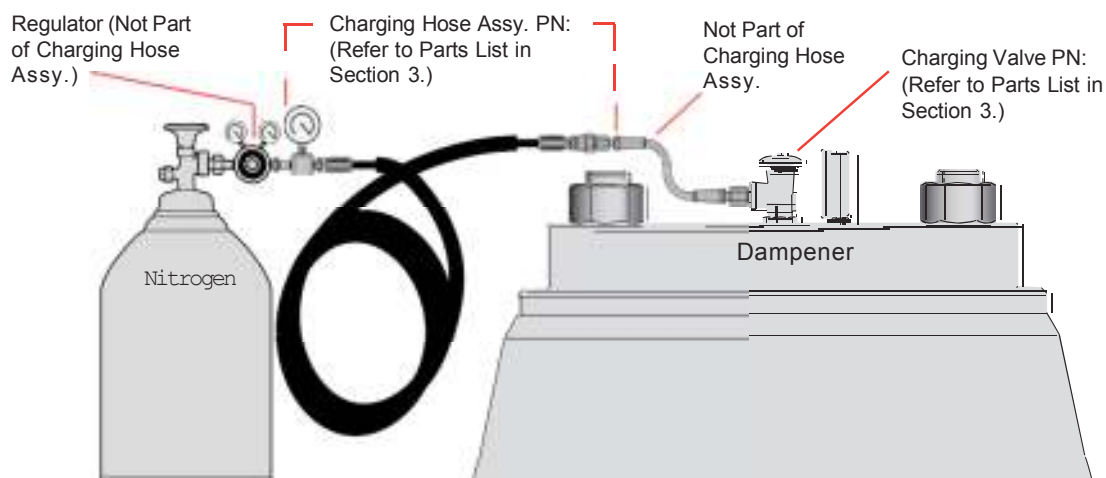

Figure 1-1. Pre-charging Kana Series Dampener
- 1.3.3 Pre-charging is accomplished by connecting one end of the charging hose assembly to a standard commercially available **NITROGEN** bottle and the other end to the charging valve located at the top of the pulsation dampener (Refer to Figure 1-1).